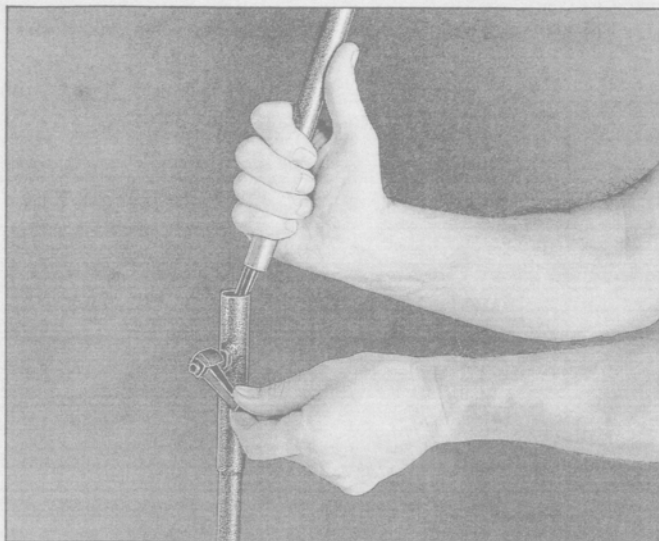
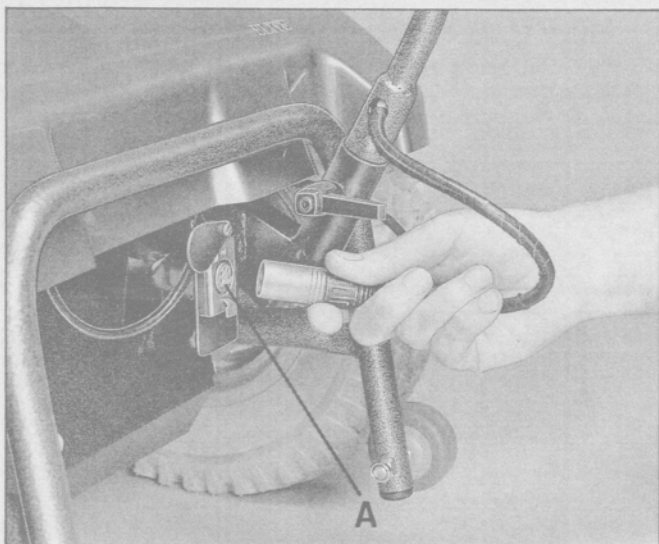

Fig. 12
Fig. 13
To fit the beacon, join and tighten the two sections of the beacon pole together (Figure 12) and slide into receptacle on rear of Scoota. Tighten clamp and insert plug into socket (A) - Figure 13.